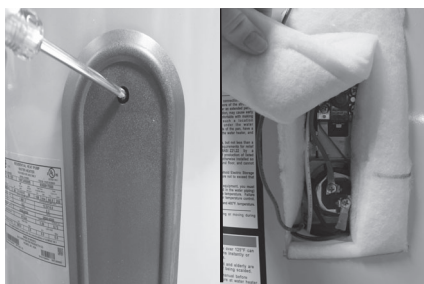

Figure 45 - Element Access Panel/ECO Compartment
- 3 Remove the upper access panel on the water heater and carefully fold back the insulation and plastic element/ECO cover (See figure 45 on page 29).